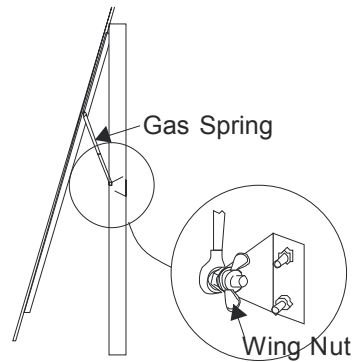

Figure 66
10. Brace the fascia open and connect the two gas springs into the appropriate brackets. Secure with washers and wing nuts (see **Figure 66**).